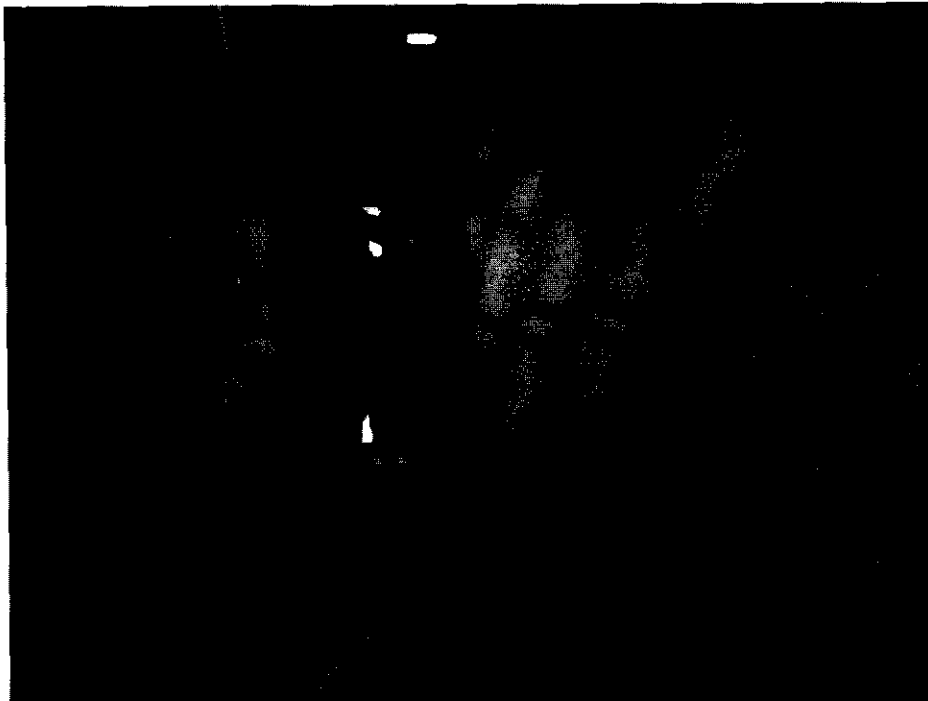

Figure 1: Show the posture of a worker (for question #1).
1. A worker is painting the office wall as shown in figure 1. The weight of his equipment is 1.2 kg and the frequency of moving his hands is 10 times per minute.